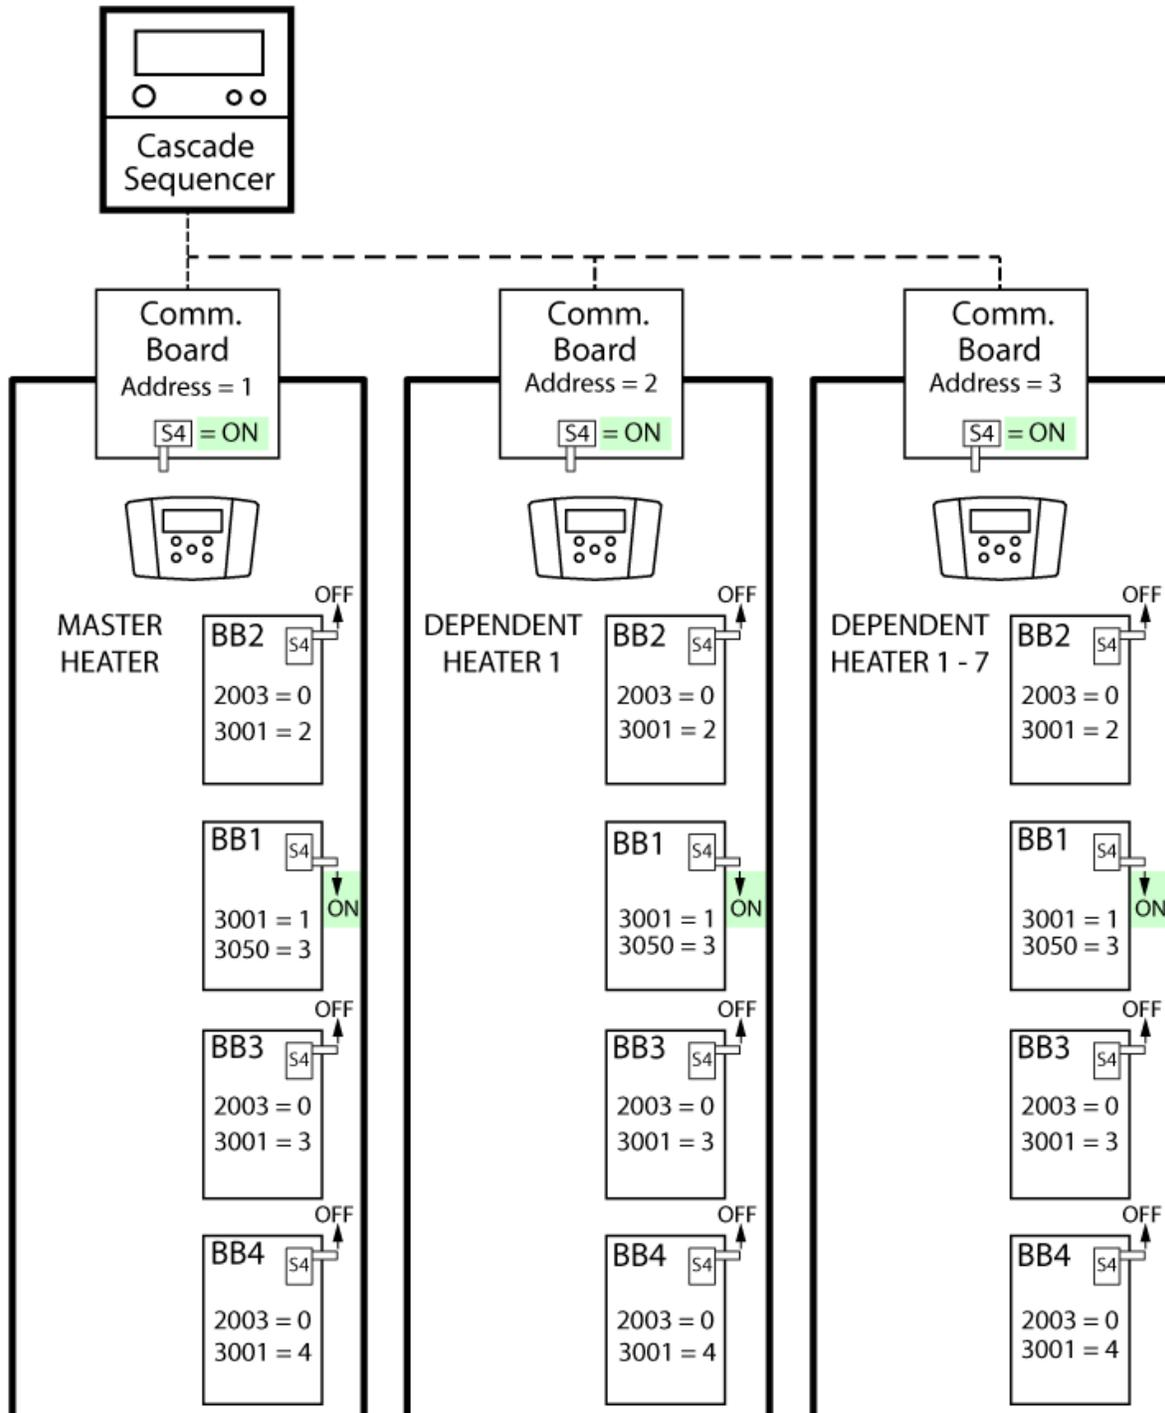

Figure 1-18a: AM 1000 Cascade Configuration and Settings Diagram
15. After all dependent heaters have had the logic address set, wire the Cascade Sequencer to terminals 16 and 17 of the Master heater. The Cascade Sequencer is now set up for cascade operation. Ensure all switch settings match Figure 1-18a, 1-18b, or 1-18c in Section 1.9, depending on which models of AM Series units are being configured.
Figures 1-18a, 1-18b, and 1-18c show the unit settings for a cascade setup for models AM 1000, AM 750, and AM 399-500, respectively, using three (3) to eight (8) units.
At the end of the installation process, all parameters (Address; Switch S4; 2003; 3001 and 3050) should have the values as shown on Figures 1-18a, 1-18b, and 1-18c.